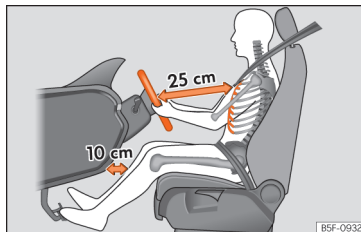

Fig. 17 The correct distance between the driver and the steering wheel must be at least 25 cm [10 inches].
- Adjust the steering wheel so that it is at a distance of at least 25 cm (10 inches) from the sternum >>> Fig. 17 and can hold it with both hands on the sides, on the outside, with the arms slightly flexed.